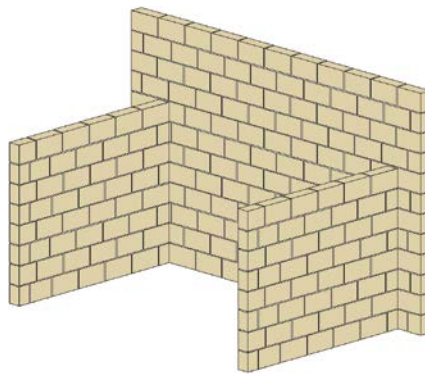

Figure 4: Cross walls
- building walls at the same time as cross walls (see figure 4) or returns, or nailing-off frame ties in veneer construction, so that they support each other